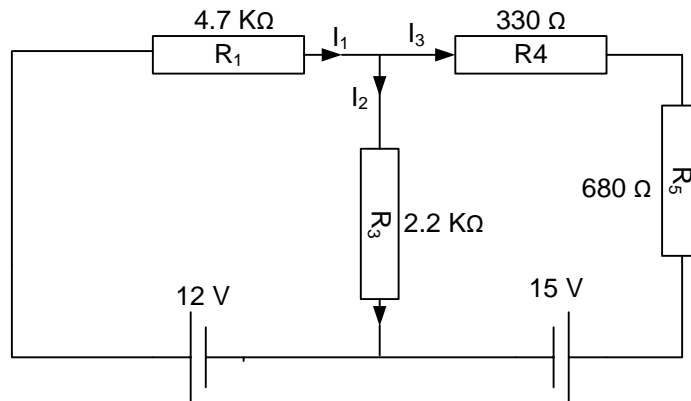

Figure 4: Superposition theorem
1. Connect the circuit as shown in Figure 4.